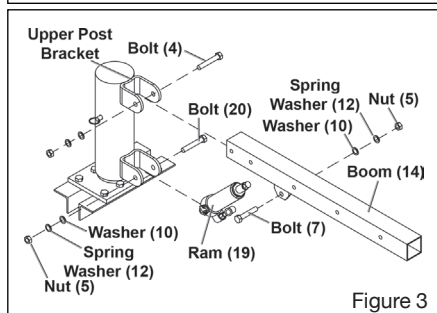

Figure 3
5. Attach Ram (19) to Lower Post Bracket using Bolt (20), Washer (10), Spring Washer (12) and Nut (5). **Figure 3**
6. Attach Boom (14), Bracket facing down, to Upper Post Bracket using Bolt (4), Spring Washer (12) Washer (10) and Nut (5).
7. Connect Boom Bracket to Ram using Bolt (7), Spring Washer (12), Washer (10), and Nut (5).